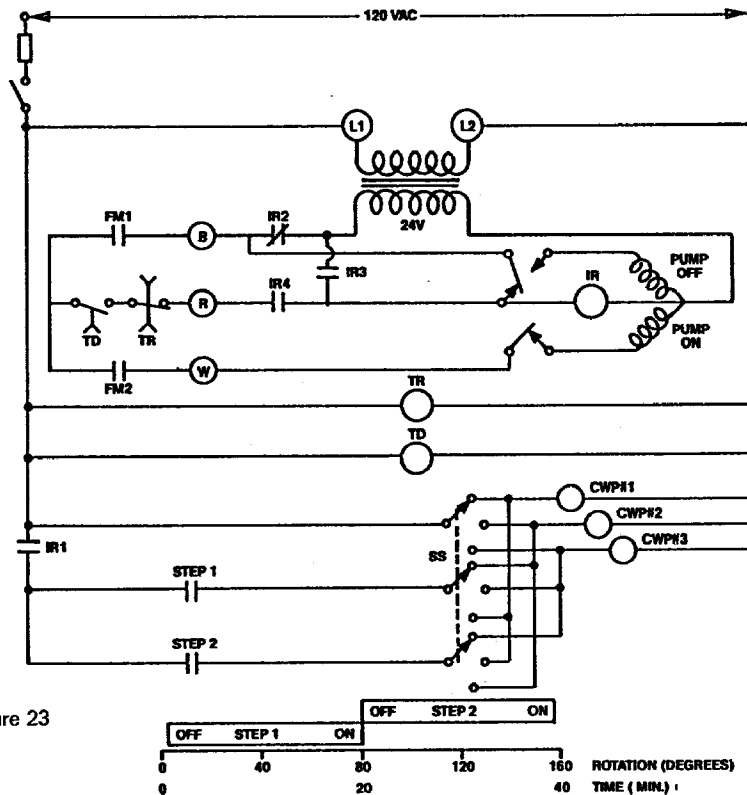

Figure 23
(Figure 23) The pump actuating control scheme uses a Honeywell S684 Step Controller with a 5 minute motor. Note that a normally-open, time to close time delay relay (TD) is used to prevent controller operation for 30 minutes, in this example, after the first chiller is started. This gives the system an opportunity to settle-out before addition chiller capacity is added.